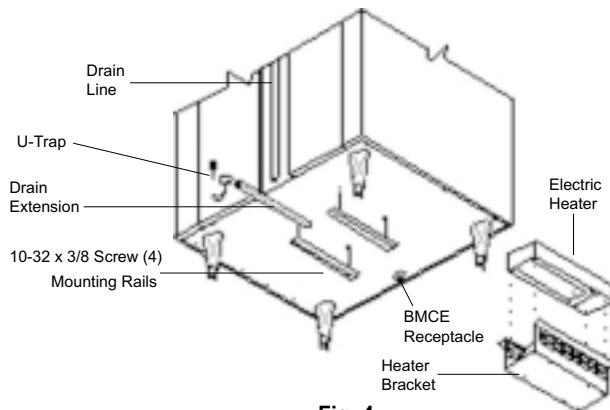

Fig. 4
holes on the exterior bottom towards the rear of the cabinet. Then, using the four (4) screws provided, attach the mounting rails to the cabinet bottom (the end flange is to be up and be facing towards the cabinet rear). Next, place the heater into the heater bracket (note the enclosed springs are only to be used when the heater is placed on the floor). Slide heater and bracket into the mounting rails. Plug the supplied cord into both the heater on one end, and the electrical outlet provided on the cabinet exterior bottom towards the front (see figure 4). Screw the "U-Trap" on to the drain line located on the rear of the cabinet and then screw the drain extension into the "U-Trap."